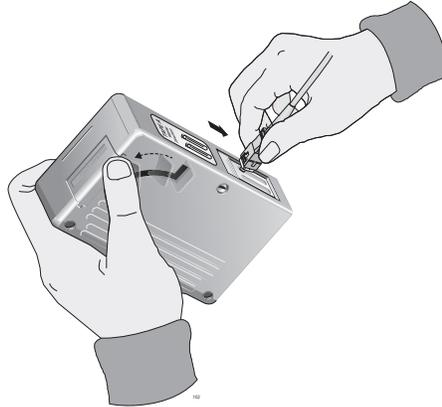

Figure 30. Rubbing the Ferrule Tip on the Cleaning Surface
1. With one hand, hold the cartridge cleaner and push the lever on the cleaning cartridge in the direction of the arrow to expose the cleaning surface, as shown in Figure 30 on page 63.
2. Place the ferrule tip on the exposed cleaning surface and rub the ferrule in a downward direction, as shown in Figure 30 on page 63.